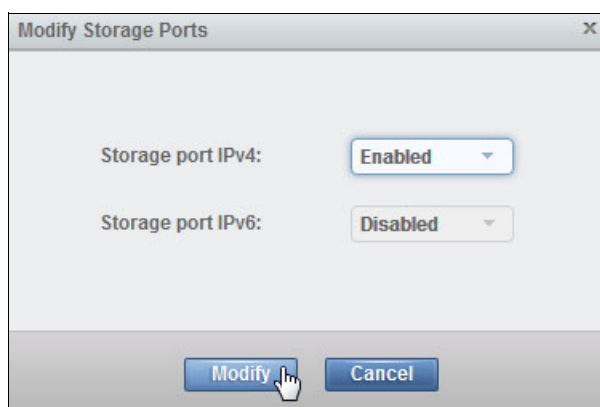

Figure 4-15 Modify Storage Ports
1. To enable a node for storage, click **Settings** → **Network** → **Ethernet Ports**. Right-click the port and select **Modify Storage Ports**, select **Enabled**, and click **Modify** to enable the port for iSCSI connections to storage systems, as shown in Figure 4-15. You can instead run the command that is shown in Example 4-10. Repeat this step for all ports.